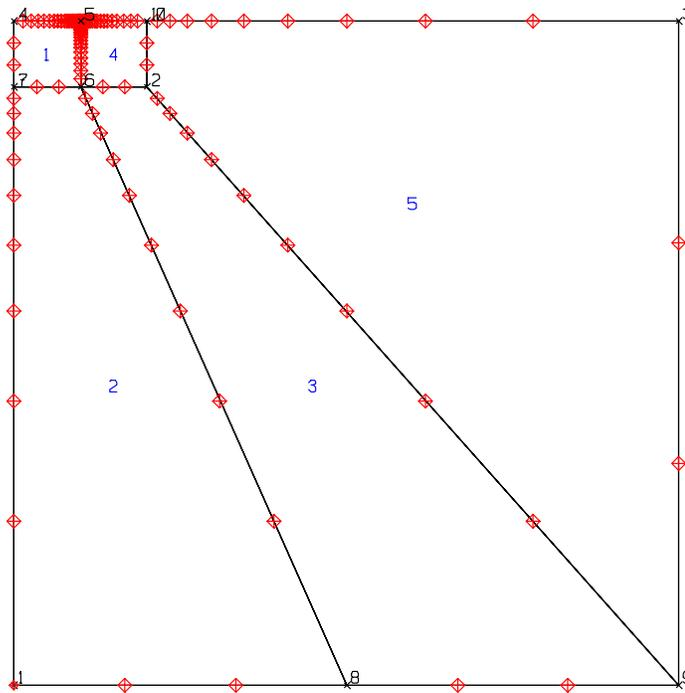

Figure 20 Fully Assigned Edge Gradings
- Step 43** Opposite edges of each element are always graded in identical proportions, so by defining gradings for just these three edges, all edges in the mesh have been graded. This can be seen from the Graphics Window, which should now look similar to Figure 20.